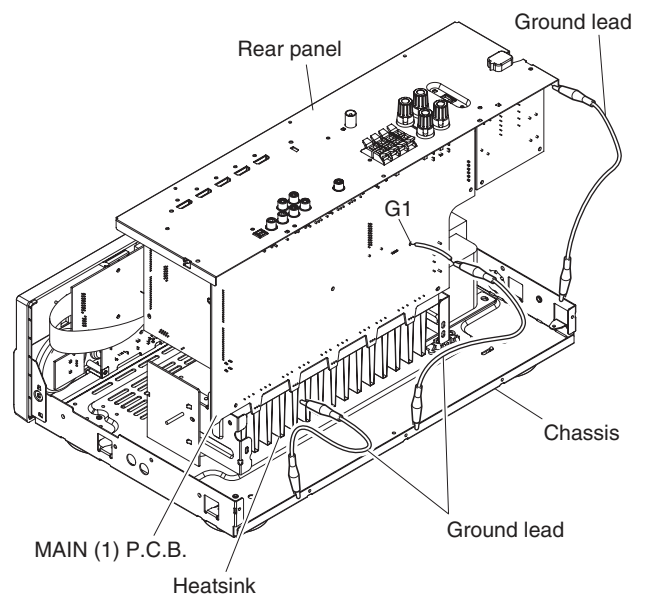

Fig. 6
- Place the P.C.B.s (with rear panel) upright. (Fig. 6)
- Connect the heatsink, rear panel and MAIN (1) P.C.B. (G1) to the chassis with a ground lead. (Fig. 6)